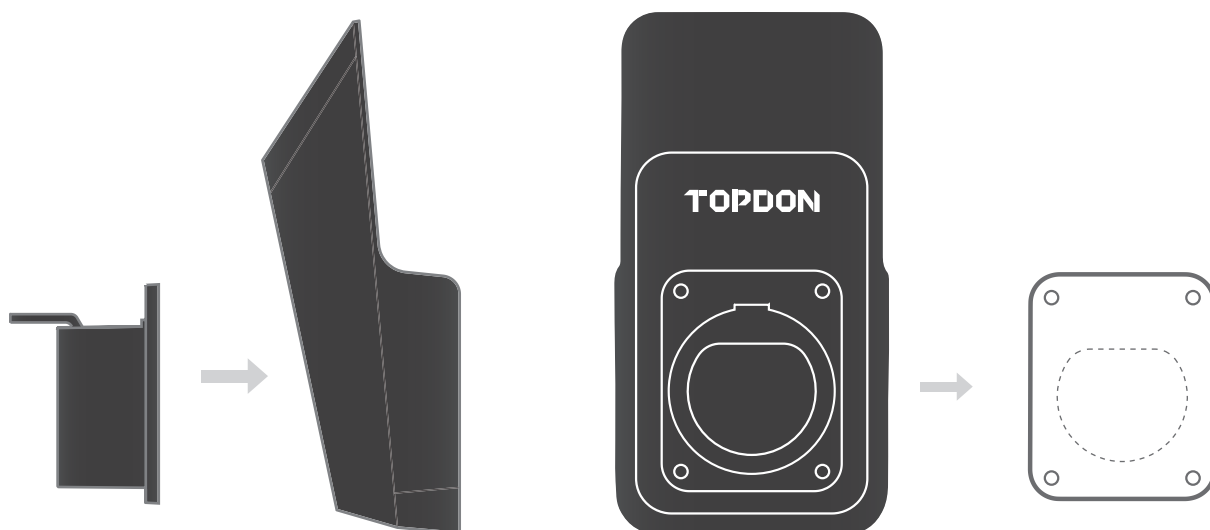

Fig. 5.6.3
4. Fit the charging plug socket into the charging dock (See Fig. 5.6.3)